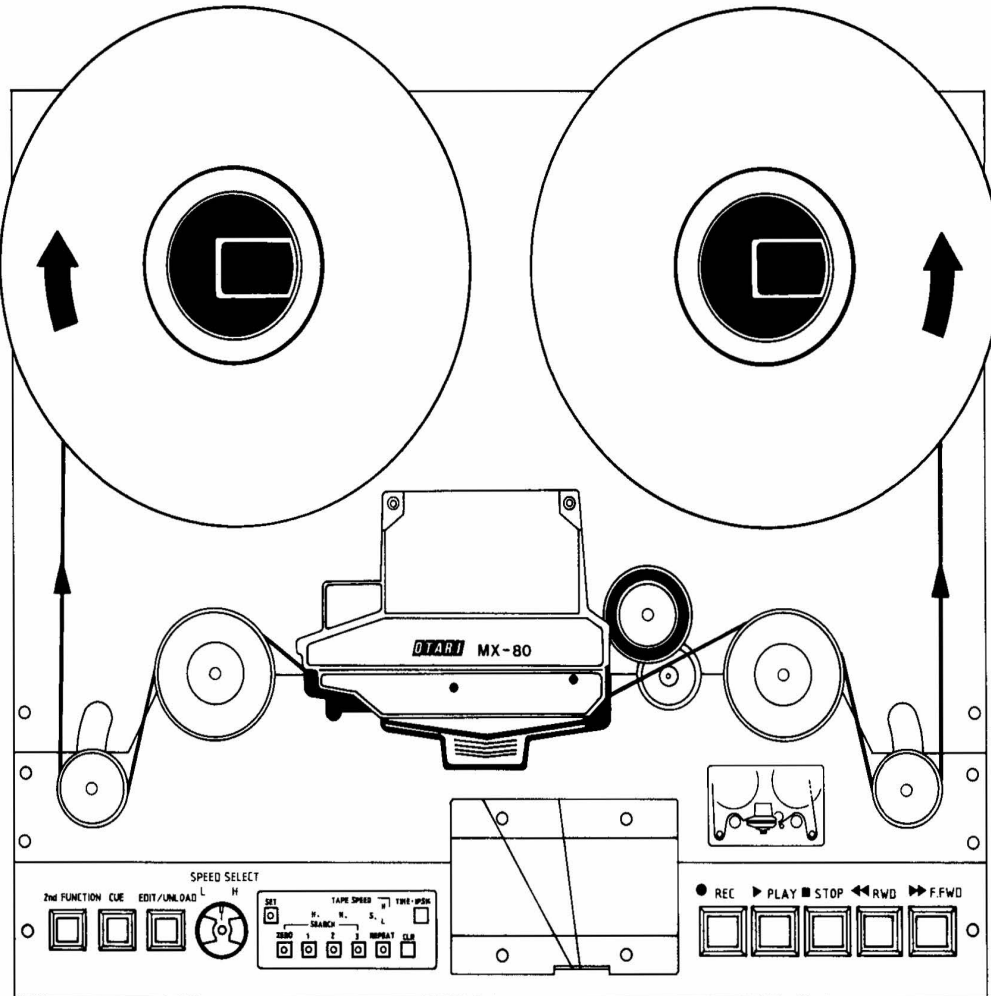

Figure 3-2 Tape Threading
- (3) Pull about 4 feet of tape from the reel, and thread it around the left Tension Arm and Guide Roller, across the Head Assembly, between the Capstan and Pinch Roller, around the Tachometer Roller and the right Tension Arm, and onto the Take-up reel, exactly as shown in Figure 3-2 and on the transport of the MX-80.